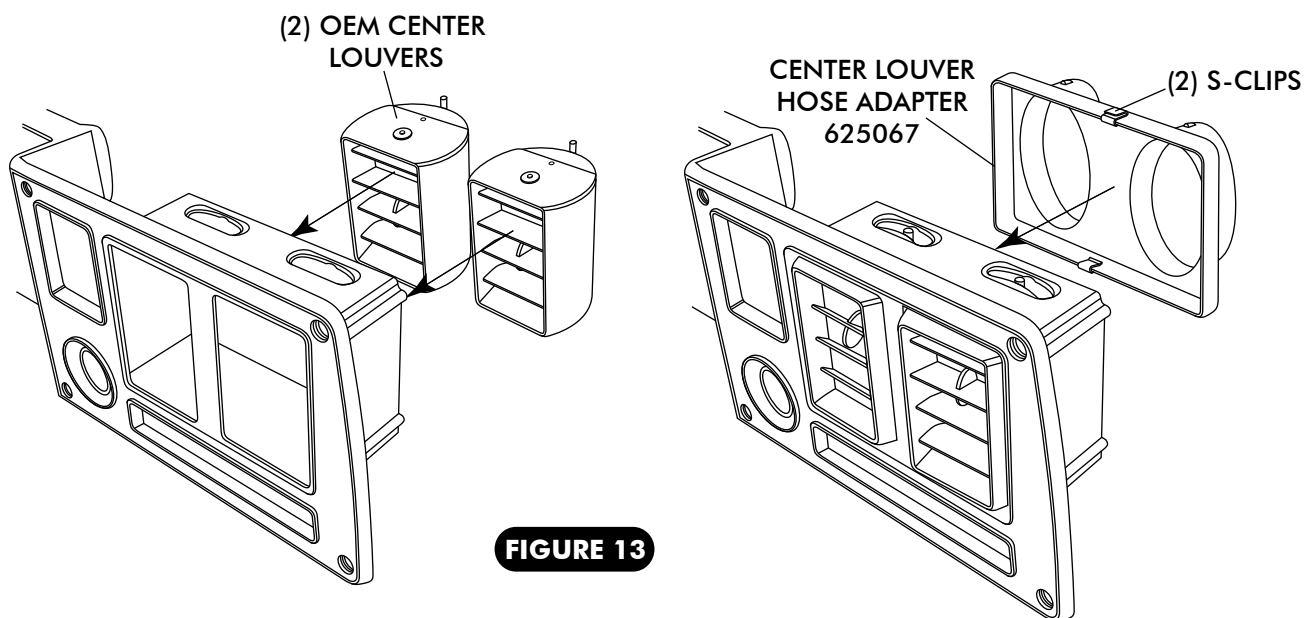

FIGURE 13
- ☐ INSTALL (2) OEM CENTER LOUVERS.
- ☐ INSTALL (2) S-CLIPS ON CENTER LOUVER HOSE ADAPTER. SEE FIGURE 13 BELOW.